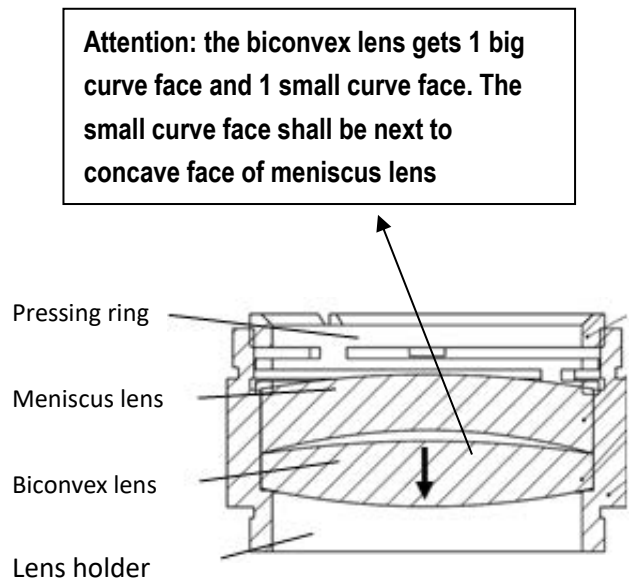

Figure 13 Installation of focus lens
- As shown in figure 13, put the focusing lens and pressing ring into the lens holder carefully and tighten the pressing ring properly;